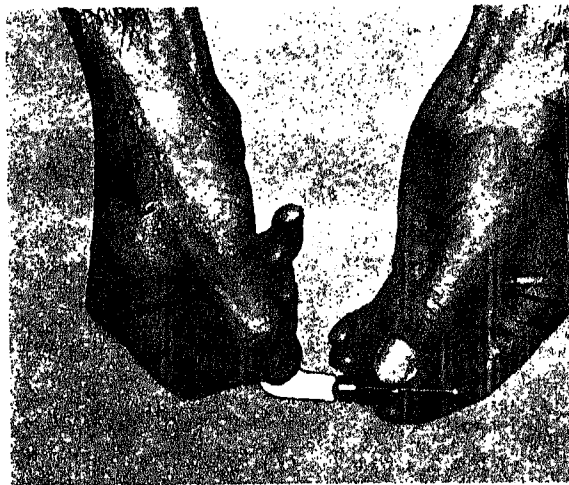

Fig. 3-1-2. Checking rocker lever adjusting screw ball end
4. The ball end of rocker lever adjusting screw must be a true sphere. Test with $\frac{1}{4}$ in. [6.3500 mm] radius gauge. Replace if flat at bottom or there is evidence of scratching or galling. Fig. 3-1-2.